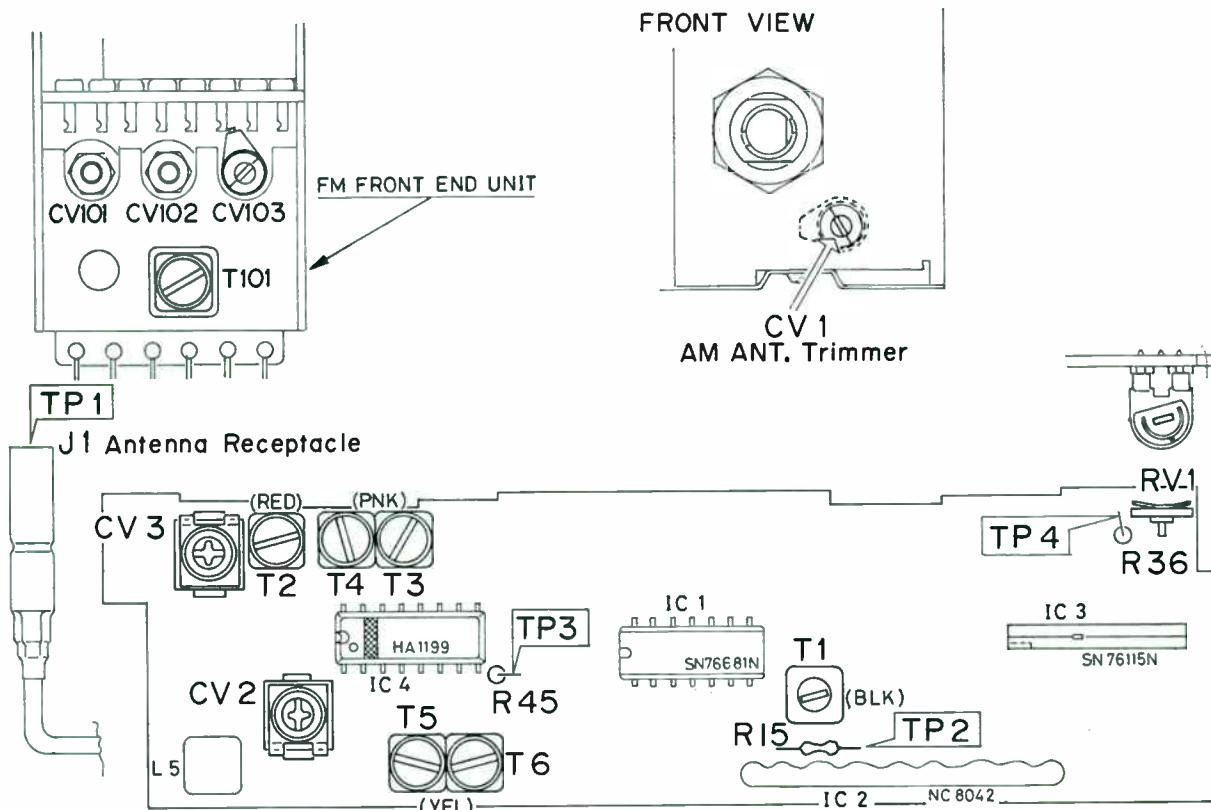

Fig. 11 ADJUSTMENT POINTS
(2) Alignments (Refer to Fig. 11 for ADJUST POINTS.)
(2) Alignment (Refer to Fig. 11 for ADJUST POINTS.)
(2) Tracking alignment (Refer to Fig. 11 for ADJUST POINTS.)
(2) Alignment (Refer to Fig. 11 for ADJUST POINTS)
(1) Alignment (Refer to Fig. 11 for ADJUSTMENT POINTS)
Connect frequency counter to TP₄ as per Fig. 11 and adjust RV₁ so that the counter frequency becomes 19 kHz ± 100 Hz.